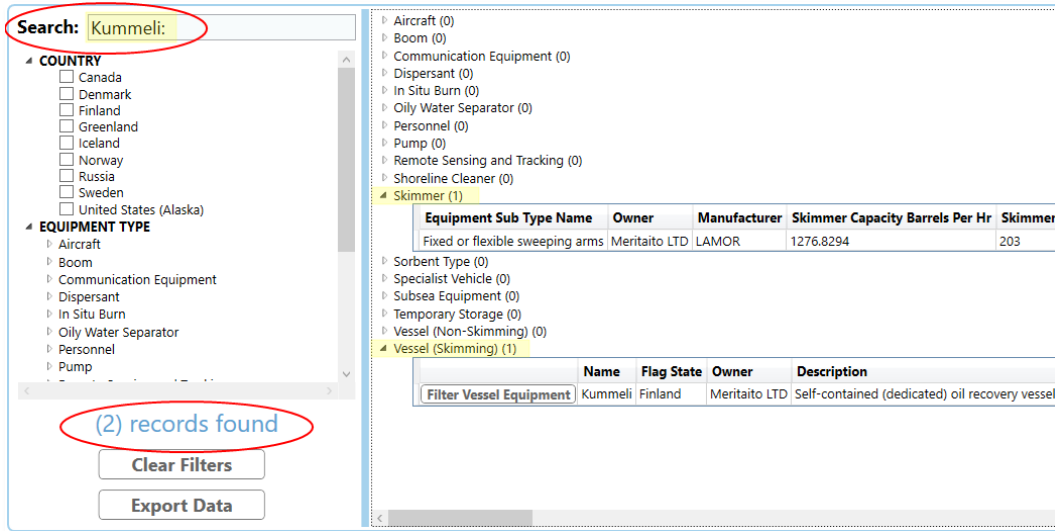

Figure 15- Equipment Data for the Selected Vessel
- The selected vessel name appears in the **Search** text field and the total **records found** updates to show the number of equipment data that was located on the ship. Equipment categories on the right that contain equipment data open to display grids with the equipment details (Figure 15).